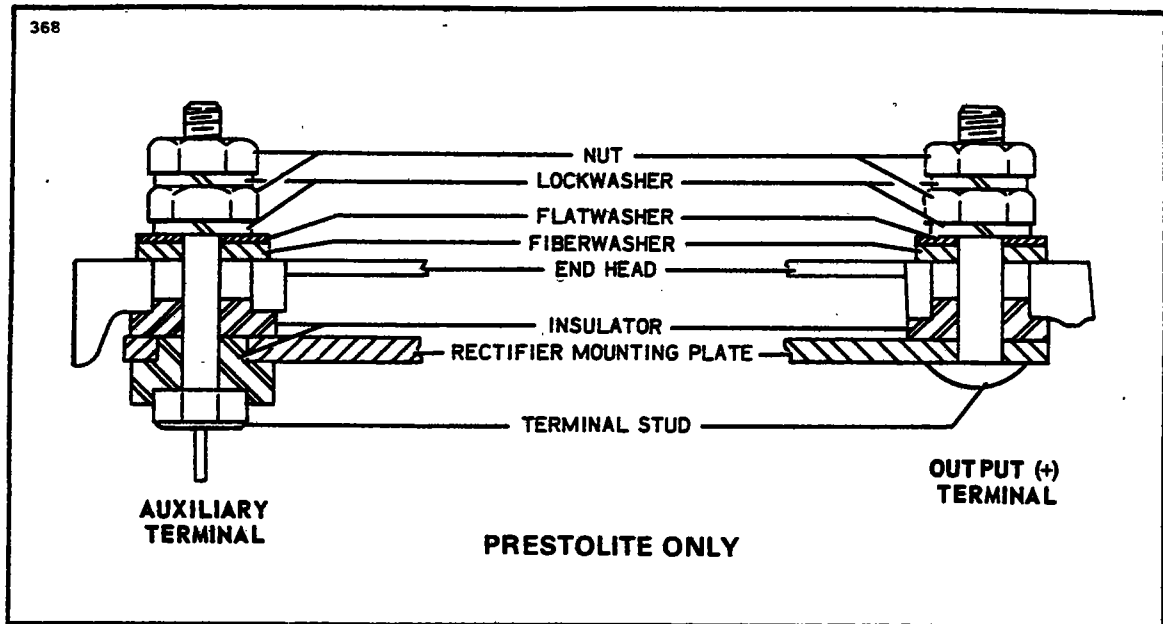

Figure 11-80. Terminal Assembly
c. Reassemble the rectifier mounting plate studs and insulators, making sure they are in the correct order. (Refer to Figure 11-80.)